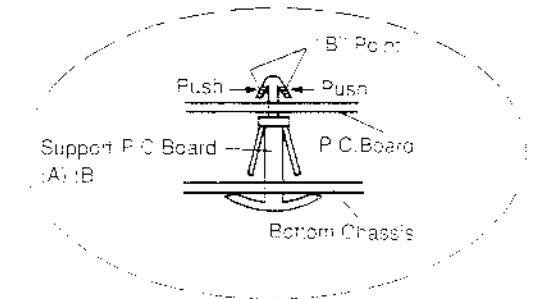

Figure 7
- (2) Remove four Support P.C.Boards (B), by pushing "B" point as shown in Figures 7 and 8.
- (3) Disconnect all wires from the P.C.Board.